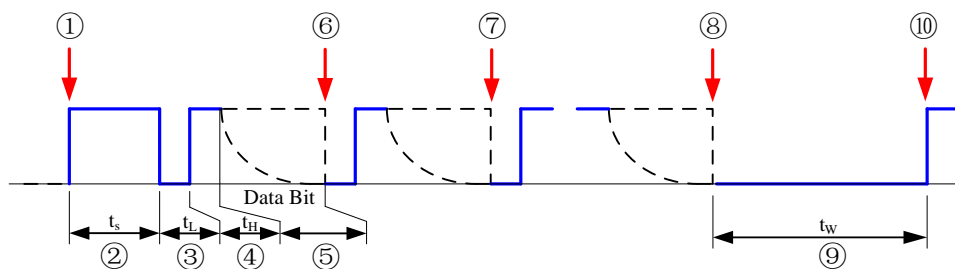

Figure 2. Timing is defined through the microcontroller to force reading of DOCl pin timing
2. In this readout mode, as shown in Figure 2, the microcontroller ignores the interrupt signal, forces the DOCl pin to be high for at least two system clock cycles, and then starts to read out the data as if it were read out in the interrupt mode.
9. After reading the data, the microcontroller forces the DOCl pin to be low and maintains at least 64 system clock cycles to complete the serial port data update. Or as shown in Figure 2, the microcontroller forces the DOCl pin low and immediately releases the DOCl pin to complete the automatic data update according to the interrupt mode.